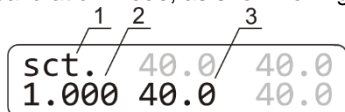

Figure 4. Display in calibration mode: 1. Calibration mode indicator; 2. Calibration coefficient; 3. Temperature with current coefficient
- 6.2. To change the calibration coefficient, hold the **⌘ RUN/STOP** key pressed for more than 8 s to activate calibration mode, as shown on figure 4).
Note. Values marked in grey on figures 4 and 5 are not used in calibration and are meant for service engineers.
- 6.3. **Restoring factory settings.** Set 1.000 value using the **▲** and **▼ T, °C** keys as shown on fig. 4/1 to restore the factory settings. Press the **▶/■ RUN/STOP** key once to save the changes and exit the calibration mode.
- 6.4.5. Hold the **⌘ RUN/STOP** key pressed for more than 8 s to activate calibration mode (figure 4).